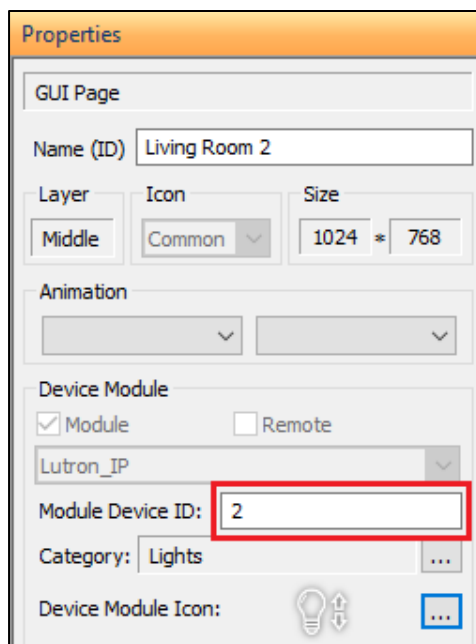

Figure 52 – Dimmer Page with ID
4. In Modular Project - Final step: Click on each Lutron Page and enter the Lutron ID into the “moduleDeviceID” field in the properties for each page (Figures 52, 53, 54).